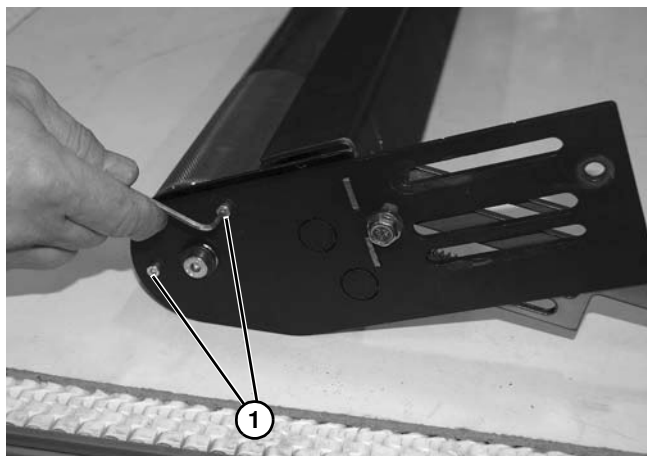
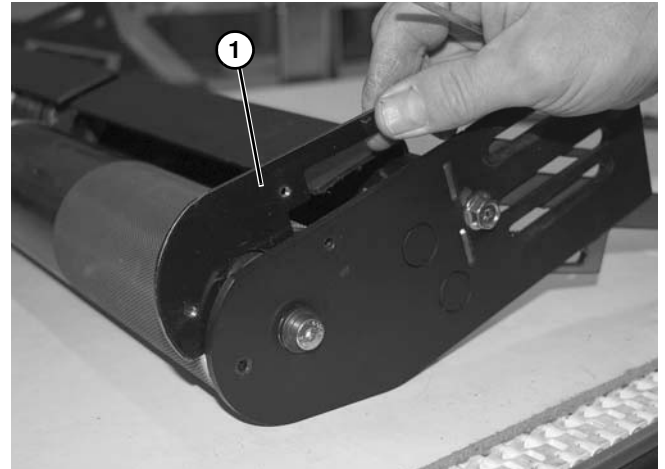

Figure 143
Figure 144
5. Remove two screws (**Figure 143, item 1**) and inner plate (**Figure 144, item 1**) from tension end.